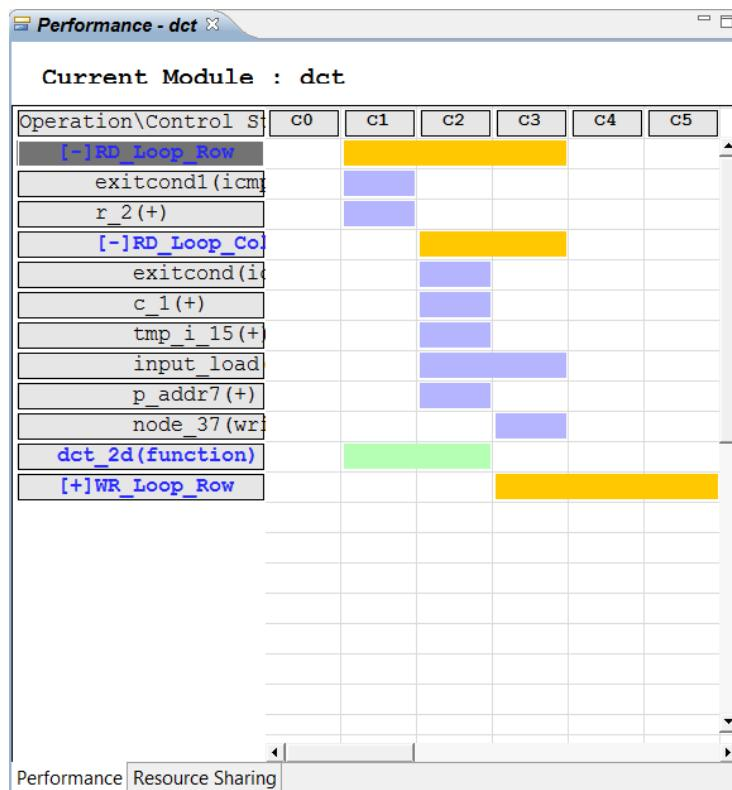

Figure 115 Expanded View of RD_Loop_Row
2. Click on loop RD_Loop_Row and sub-loop RD_Loop_Col to fully expand the loop hierarchy (Figure 115).